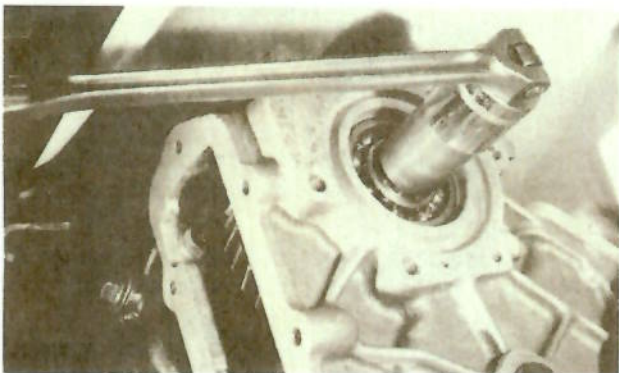

FIG. 5 — REMOVING THE NUT FROM THE SPLINE SHAFT.
13. Place transmission in low gear. Then, bend back the locking tab of the lock washer at the end of the spline shaft and remove the lock nut, lock washer and spacer that secure the two driving gears on the shaft between the front and rear bearings, (Fig. 5).